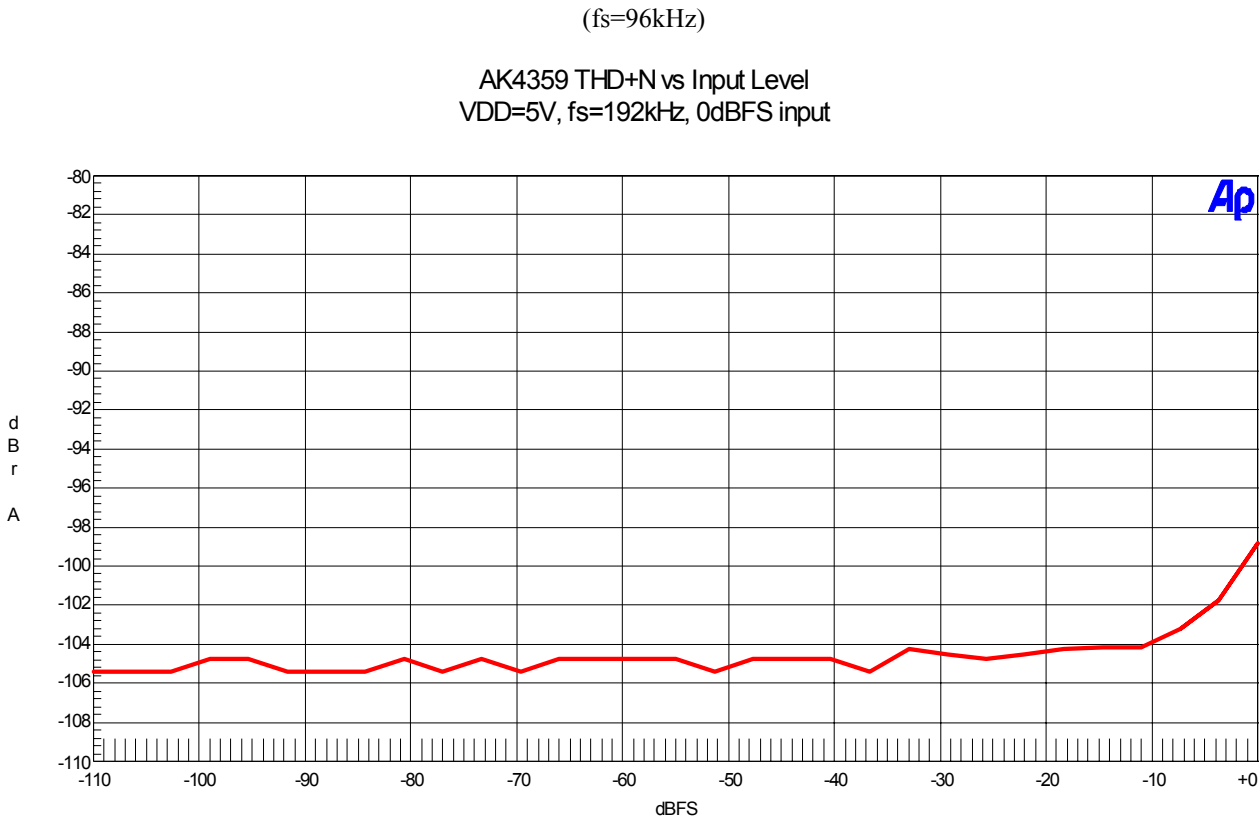

Figure26. THD+N vs Input Level (fin=1kHz)
- Figure26. THD+N vs Input Level (fin=1kHz)